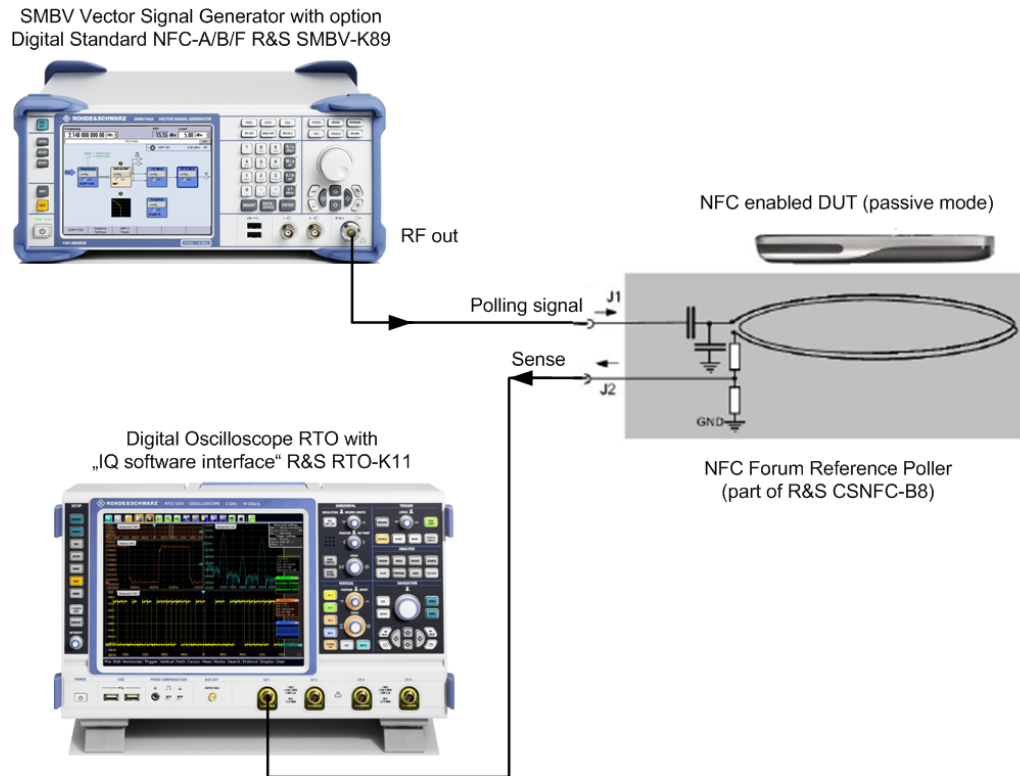

Figure 5-2: Test setup for an NFC mobile phone in listening mode (simplified schematic).
1. Connect the RF OUT connector of the R&S SMx to the X1 connector of the NFC Forum reference poller, see Figure 5-2.